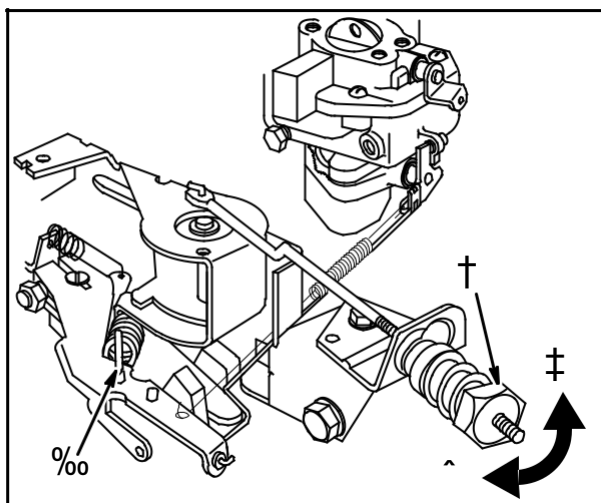

Fig. 37
NOTE: Be sure the governor spring is installed in #1 hole in governor lever (9), **Fig. 37**.
Turn fixed speed adjustable control nut (6) clockwise (8) to increase or counter-clockwise (7) to decrease engine speed until desired Top No-Load RPM is obtained, **Fig. 37**.